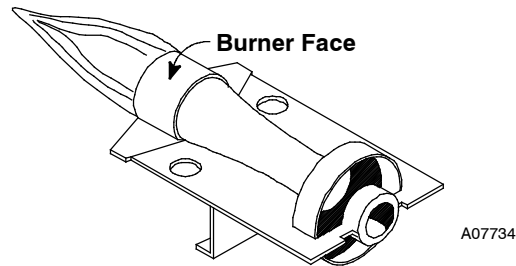

Fig. 15 - Burner Flame
11. Check furnace operation through 2 complete heat operating cycles. Burner flames should be clear blue, almost transparent. (See Fig. 15.)